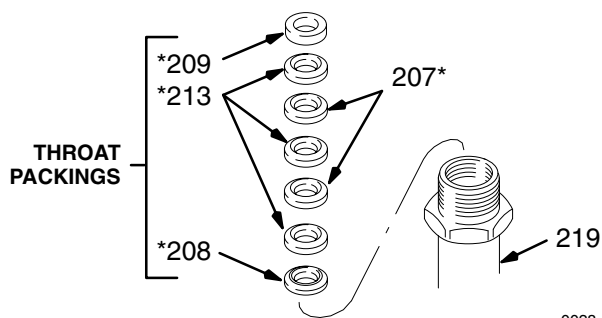

Fig. 24
6. Remove the throat packings and glands. See Fig. 24.